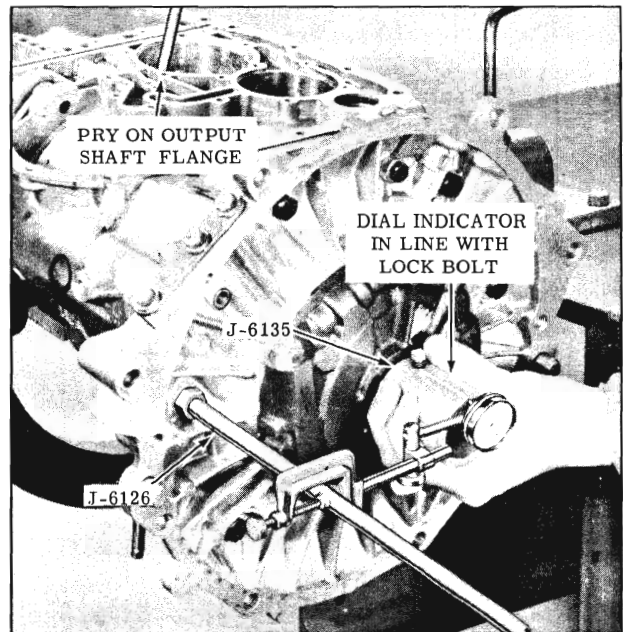

Fig. 3-118 Checking End Play
6. At the same time move tool handle and record end play. (Fig. 3-118)